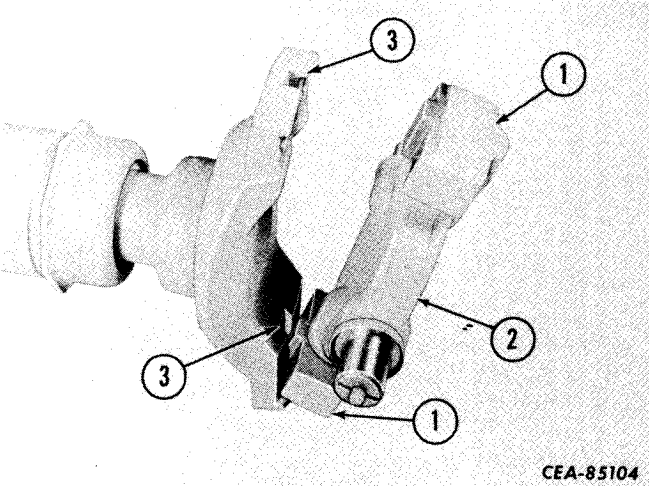

Figure 5-13
Install two opposite bearing assemblies (1, Fig. 5-13) on the spider (2). Install the spider assembly in the yoke by inserting the lug on the bearing cap into the groove in the yoke (3) as shown. Tap the opposite bearing cap at an angle to seat the spider and bearing assembly.